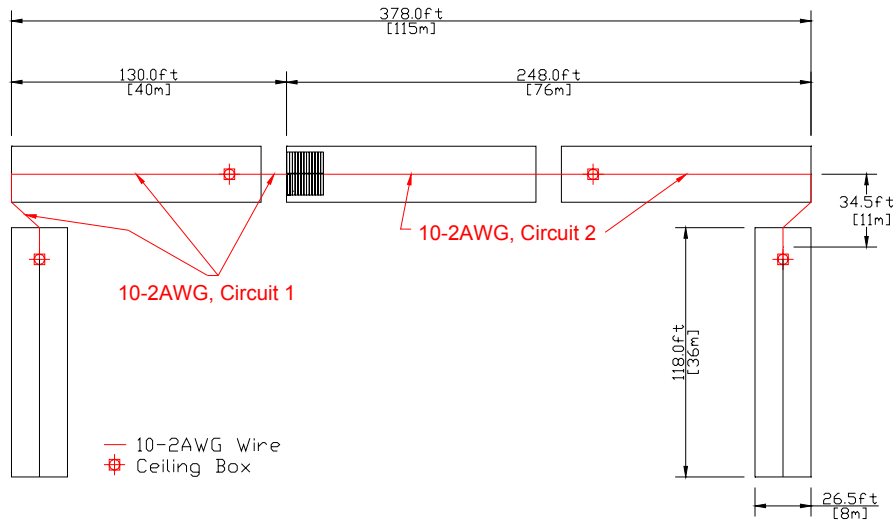
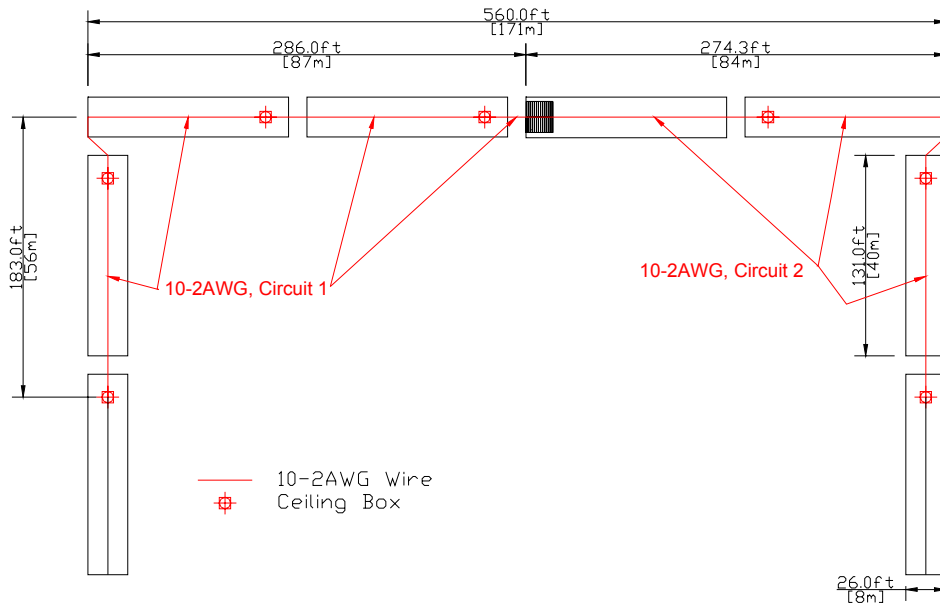

Figure 5.2; Gisenyi Building Layout
Figure 5.3; Mutura Building Layout
- B. Figures 5.2 to 5.6 show the building layouts for the five sites. The furthest distance from the Control Module to the last building is in Mutura; see Figure 5.3 on this page. This distance is estimated at 470 feet. Therefore, 10-2UF outdoor wire was selected.